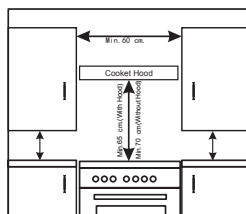

Figure 1
- Place the wall cabinets adjacent to the hood at a minimum height of 42 cm from the hobs as indicated in figure 1.
- Should the cooker be installed beneath a wall cabinet, the latter should be situated at least 70cm away from the hobs as indicated in figure 1.
- The cut-out for the cooker cabinet should have the dimensions indicated in the figure 1.